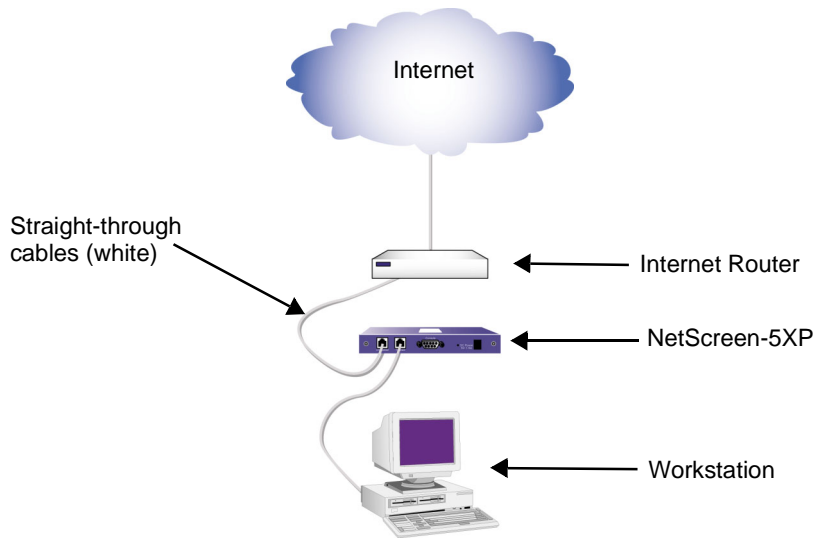

Figure 2-2 Typical Single-Workstation Configuration—Router Connected to the Untrusted Port, Workstation Connected to the Trusted Port
- [Figure 2-2 “Typical Single-Workstation Configuration—Router Connected to the Untrusted Port, Workstation Connected to the Trusted Port” on page 2-3.](#)